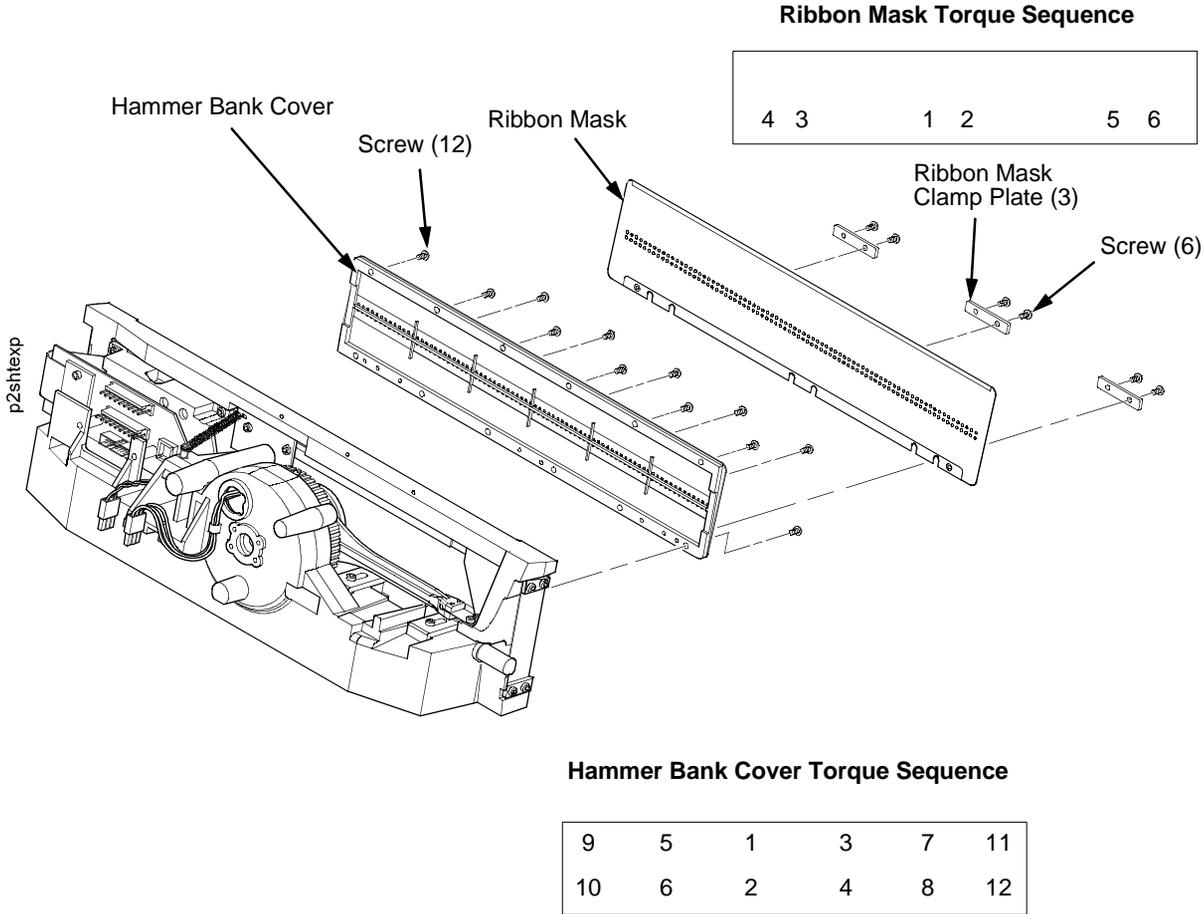

Figure 17. Two-Piece Hammer Bank/Ribbon Mask Cover Assembly
- a. Using a Torx T-10 driver, remove the six screws and three ribbon mask clamp plates securing the ribbon mask to the hammer bank cover. Remove the ribbon mask. (See Figure 17, page 376.)
- b. Using a Torx T-10 driver, remove the 12 screws securing the hammer bank cover to the hammer bank. Remove the hammer bank cover. (See Figure 17, page 376.)
- b. Install all 12 hold-down screws finger tight. Using a Torx T-10 driver, torque the 12 hold-screws to 14 inch-pounds (1.58 N•m) in the sequence shown in Figure 17 on page 376.
- c. With the seam of the folded lower edge of the ribbon mask facing inward (toward the hammer bank cover), position the ribbon mask on the alignment pins on the hammer bank cover. The ribbon mask is correctly installed when the angled ends of the ribbon mask match the angled ends of the hammer bank cover. Install the three clamp plates and six screws finger tight. Using a Torx T-10 driver, torque the six screws to 14 inch-pounds (1.58 N•m) in the sequence shown in Figure 17 on page 376.